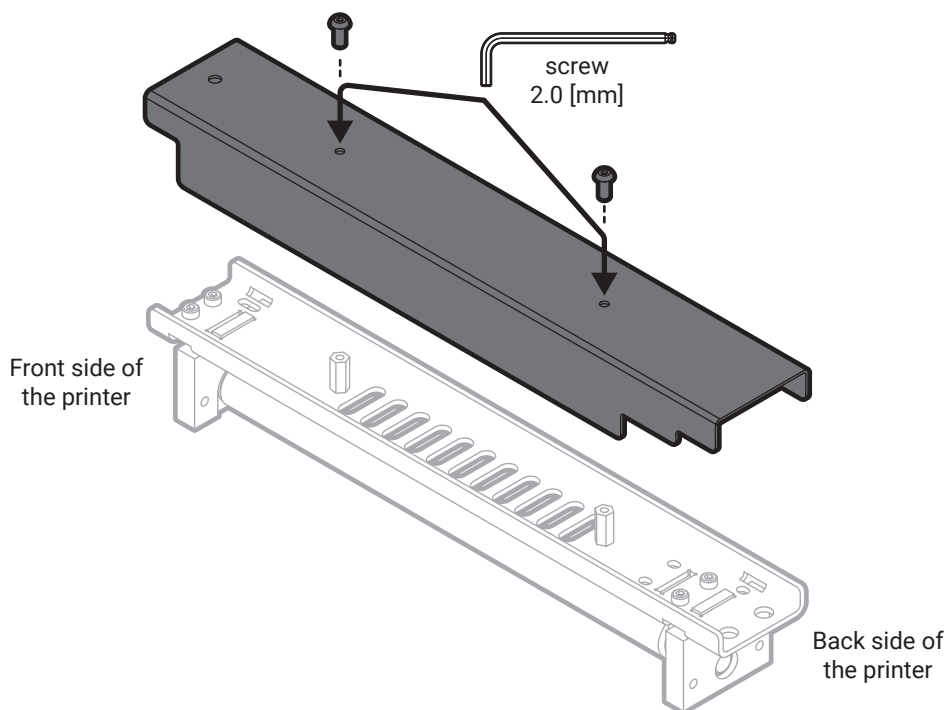

Fig. 11 Installing the new Recoater black cover.
24. Using a 2 mm allen key and two M3x8 screws, fasten the black cover onto the Recoater (fig. 11).